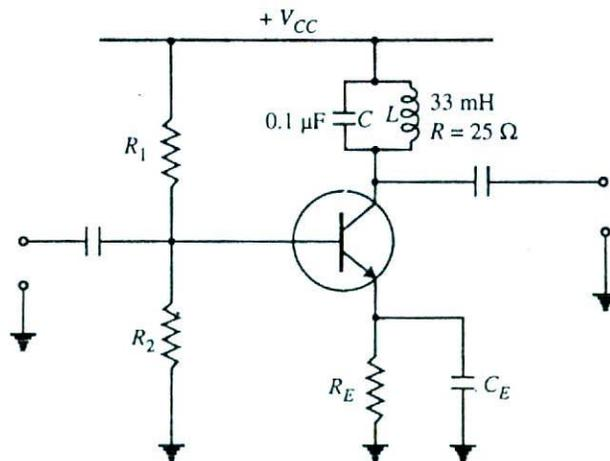

Fig. 17.11
**Example 17.4.** For the tuned amplifier shown in Fig. 17.11, determine (i) the resonant frequency (ii) the  $Q$  of tank circuit and (iii) bandwidth of the amplifier.